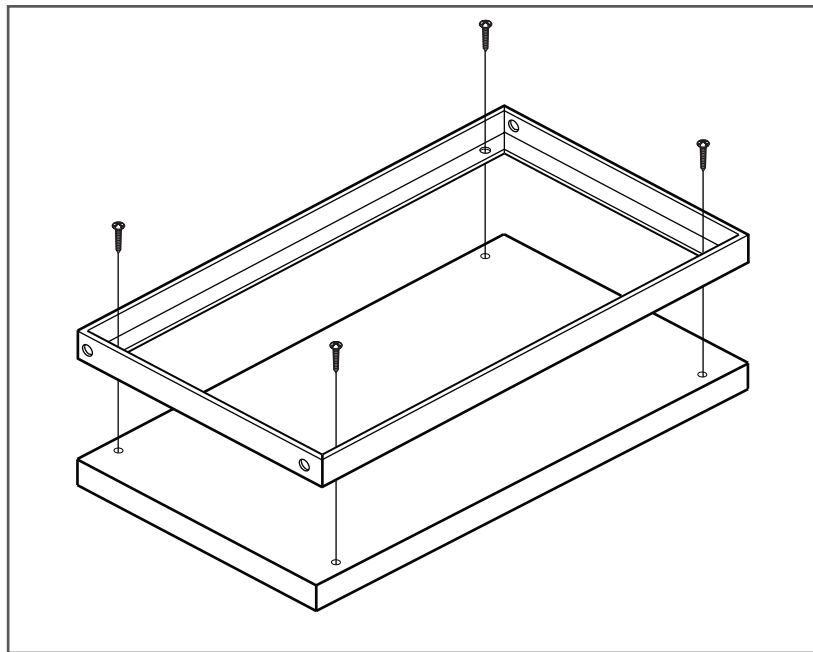

Figure 1
1. Lay the wood shelf (D) on a flat, stable surface.
2. Position the shelf frame (A or B) on top of the wood, ensuring the edge of the wood and the edge of the frame are even on all sides (figure 1).
3. Attach the shelf frame to the shelf wood using four #8 pan head screws (I) (provided).